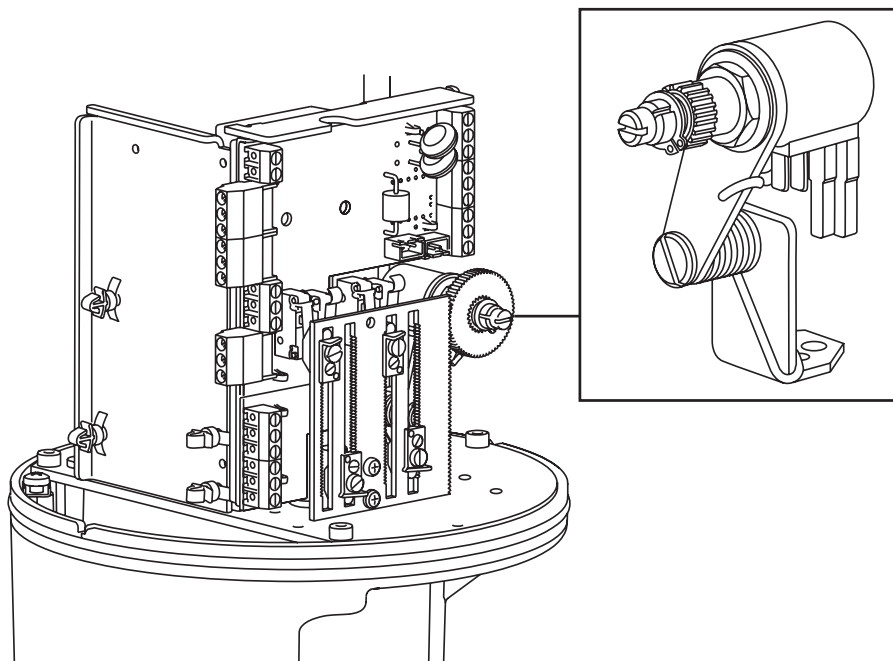
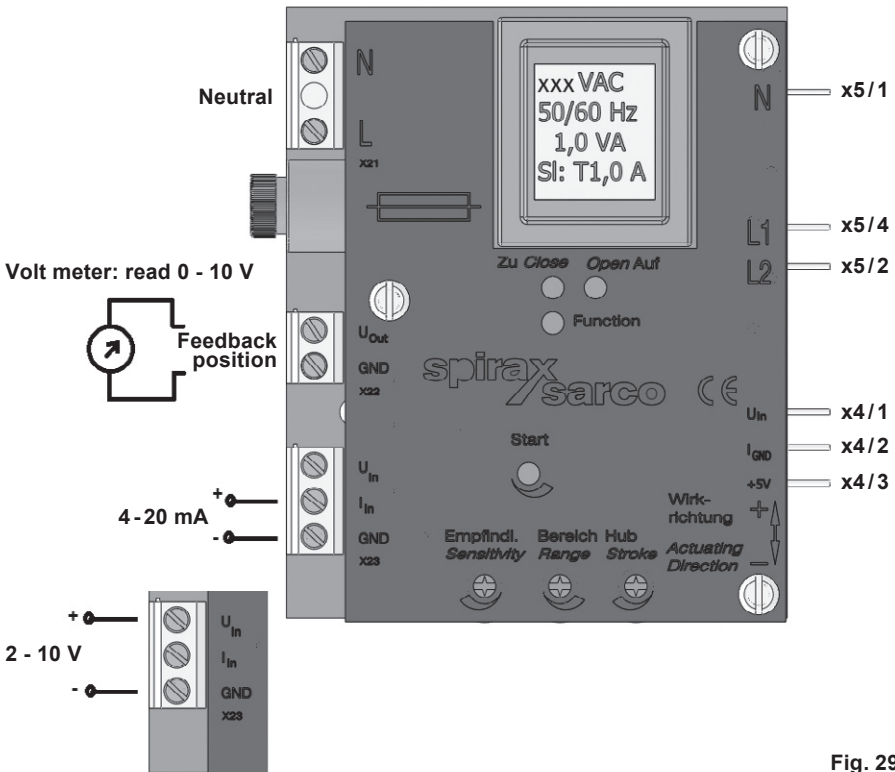

Fig. 28
Fig. 29
6. At this point the multimeter should read 0 V. If it does not turn the shaft of the feedback potentiometer until the multimeter reads the required 0 V (Figure 28) adjust the start potentiometer P2 (Figure 29) until the close LED just switches off.